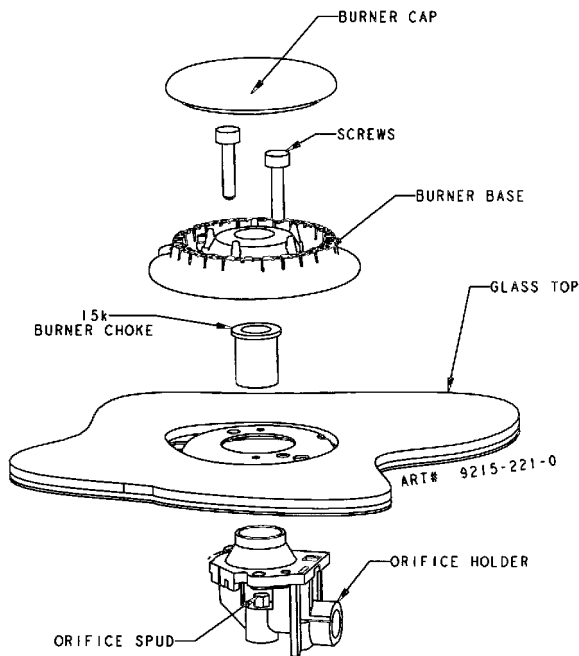

FIGURE 11
Step 7: Place 15k burner choke into center orifice holder. (See figure 11).